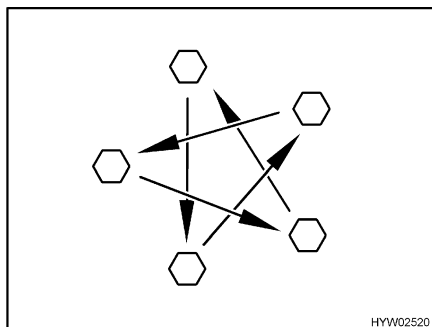

Fig. 94 Tighten the wheel nuts or wheel bolts cross-wise
- Check regularly that the wheel nuts or wheel bolts are firmly seated. Re-tighten the wheel nuts or wheel bolts of a changed wheel cross-wise (Fig. 94) after 50 km (30 miles). See section 14.5.2 for tightening torque.
- ▷ Tighten the wheel nuts or wheel bolts cross-wise (Fig. 94).